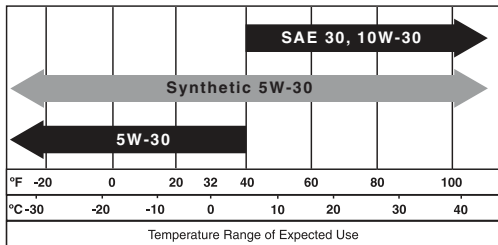

FIGURE 33: Recommended Oil Viscosity
SAE 10W-30 is recommended for general temperature use. Refer to Figure 33 for information on other viscosities that may be used. Other viscosities shown in chart may be used when average temperature in your area is within indicated range.
- Unused engine oil (SAE type indicated in Figure 33)
12. Pour new (unused) engine oil into oil fill hole using funnel. (See Figure 33 for recommended oil type). Do not overfill.